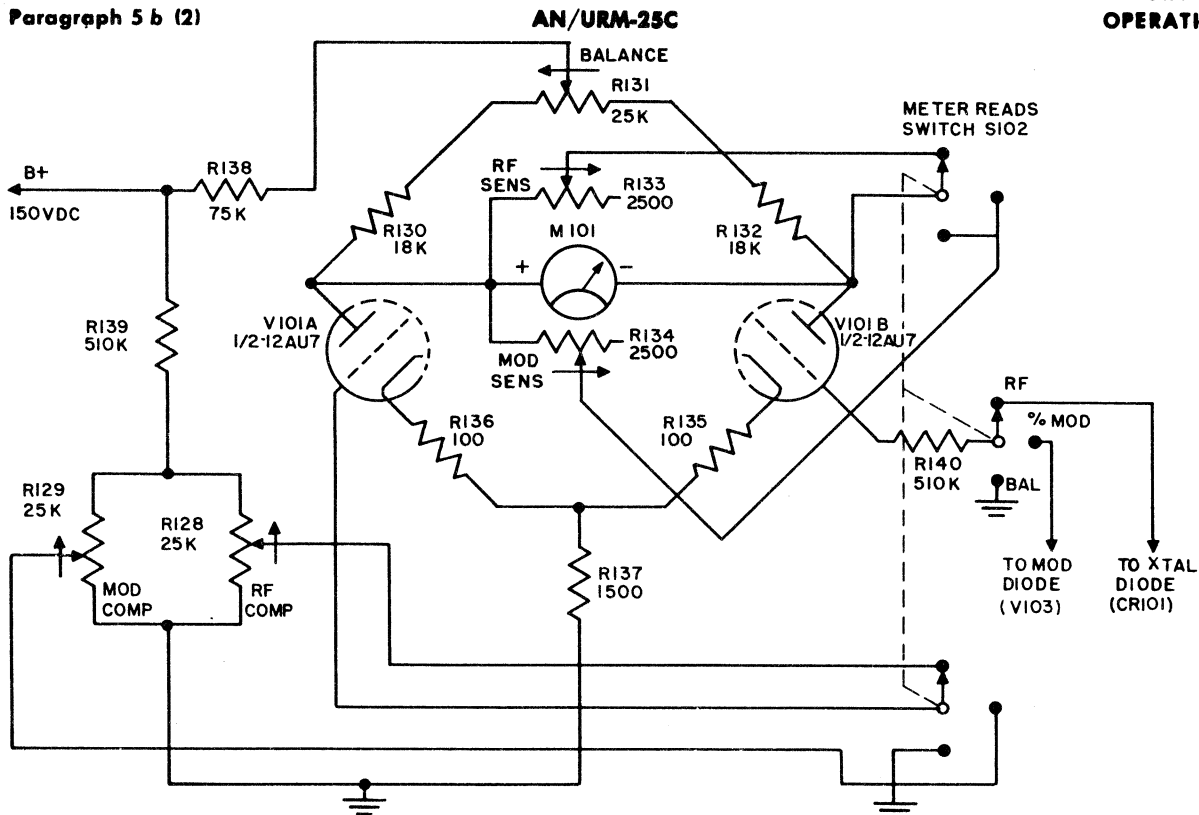

Figure 2-7. Schematic Diagram of the Voltmeter Bridge Circuit
c. VOLTMETER BRIDGE CIRCUIT. (See figure 2-7).
(1) The voltmeter bridge (V-101) circuit provides a means for applying the rectified signals from either the RF or modulation diodes to the meter (M-101). The bridge circuit utilizes a tube type 12AU7 (V-101) dual triode and is located in the audio compartment. The principal electrical features of the voltmeter bridge circuit are shown in figure 2-7.
(2) The fundamental principle of the voltmeter bridge is that of a Wheatstone bridge in which the DC plate resistances of the triode sections form two of the arms. When the bridge is balanced, the DC plate resistances of both triode sections are equal and no current flows through the meter (M-101). The movement of this meter is such that 50 microamperes gives full scale deflection. Tube section V-101B is the "unbalancing" part of the bridge, its DC plate resistance varying in accordance with the bias supplied by the rectified volt-